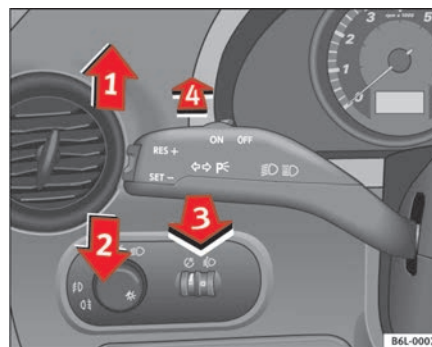

Fig. 60 Turn signal and main beam headlight lever
- Move the lever all the way up  fig. 60  to indicate **right**, and all the way down  to indicate **left**.
- Press the lever forward $\Rightarrow$ page 92, fig. 60  to switch on the main beams.